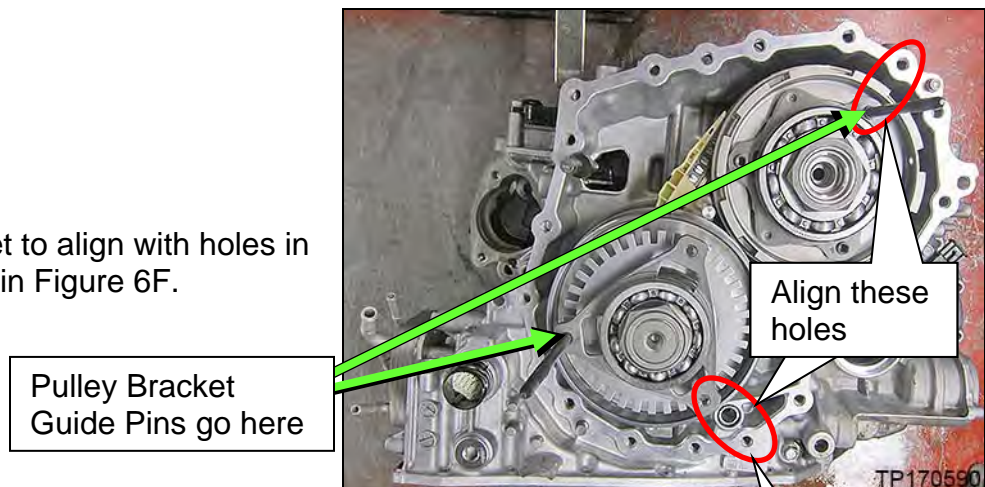

Figure 6F
6. Rotate each bracket to align with holes in the case as shown in Figure 6F.